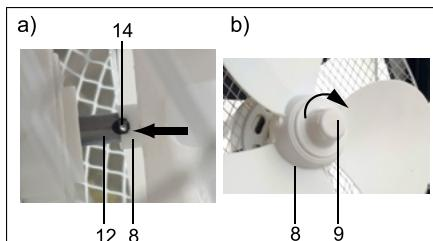

Fig.14: Monting rotor
4. Slide the rear guard grille (4) onto the axle (12) and the centering pins (13) of the engine block. See Fig. 14 a).
5. Slide the hexagon nut (5) onto the axle in front of the rear guard grille and tighten clockwise. See Fig. 14 b).